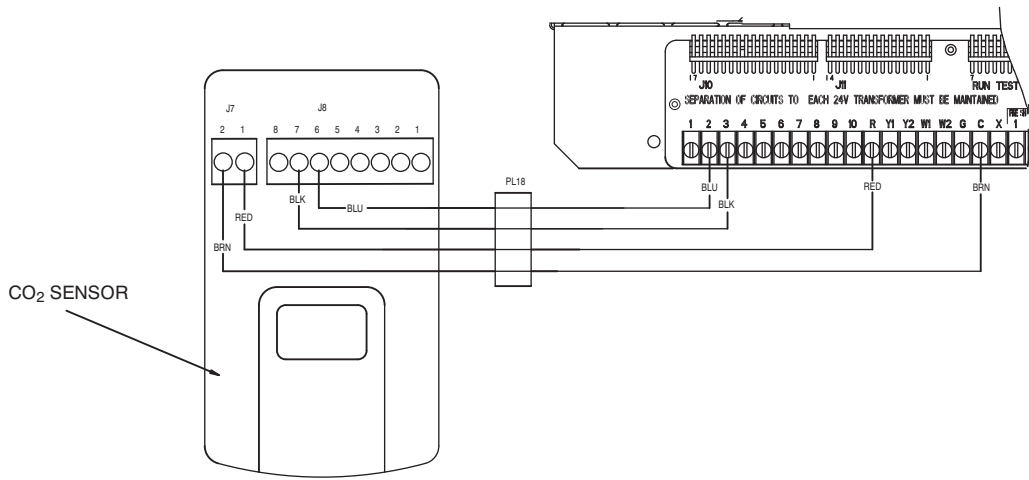

Fig. 5 - Wiring Diagram
7. Wire the sensor wiring harness (P/N 50TG403368) to the sensor as shown in Fig. 5. Be sure to route the wires through the bottom of the mounting plate and the snap bushing.
13. Open compressor access panel and locate end of harness. Wire the electrical harness (P/N 48HG400595) to the terminal strips as shown in Fig. 5.
12. Wire the electrical harness (P/N 50TG403323) to the terminal strips as shown in Fig. 5. Connect the ends of the plug (PL18) together. Secure wires so they do not interfere with normal operation.